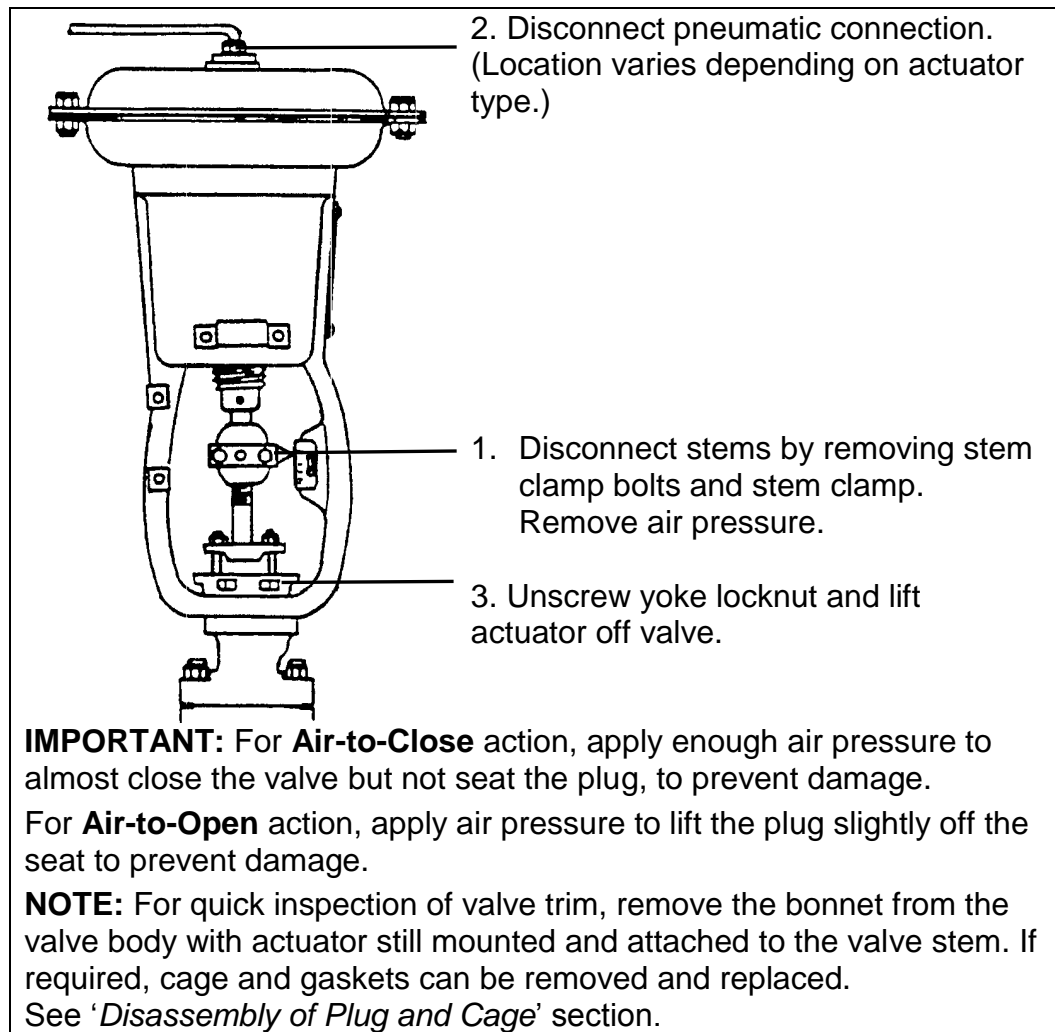

Figure 3: Actuator Removal (Diaphragm Actuators)
- Remove actuator from valve. See Figures 3 for actuator removal.